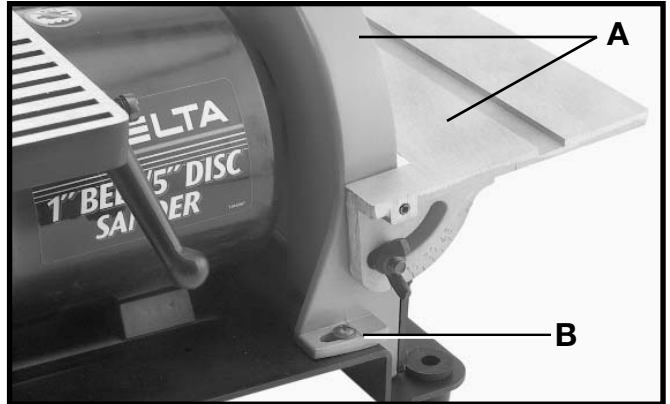

Fig. 9
3. Fasten the sanding disc guard with table (A) Fig. 9, to base using the two 3/8" long screws, one of which is shown at (B).
4. **WARNING:** To avoid trapping the workpiece or your fingers between the table (A) and the sanding disc (B), adjust the table so that it is a maximum 1/16" from disc, between the work table and the disc (see the section "DISC TABLE ADJUSTMENTS").